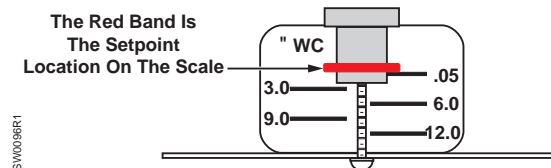
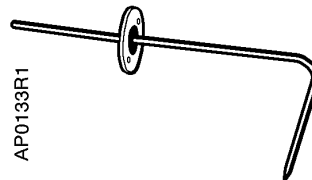

**Figure 2. Switches with Covers Removed.**
**Figure 3. Adjusting the Setpoint.**
Connect the static pressure line to the low inlet (marked on the case and Figure 2) and leave the high inlet open to the atmosphere.
Connect the static pressure line to the high inlet (marked on the case and Figure 2) and leave the low inlet open to the atmosphere.
Connect the highest static pressure line to the high inlet and the lowest static pressure line to the low inlet (marked on the case and Figure 2.)
1. To increase the setpoint, turn the adjustment screw clockwise as shown in Figure 2 and Figure 3. From the lowest setpoint, several turns are necessary to engage the adjusting mechanism.